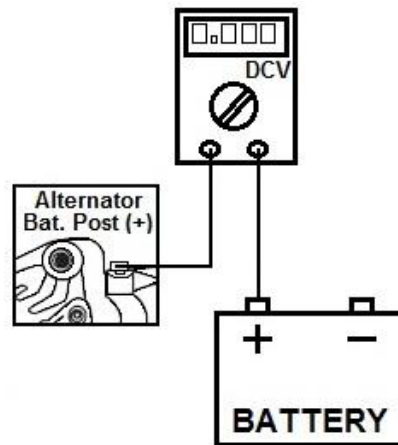

Figure 2
3. With a voltmeter, measure the voltage drop between battery (+) and alternator output post (**Figure 2**). Your voltage should be less than 0.40VDC. If it is higher, it may be poor connections between the alternator and battery. It could also be undersized battery cables, loose or improperly crimped terminals, or corroded connections.